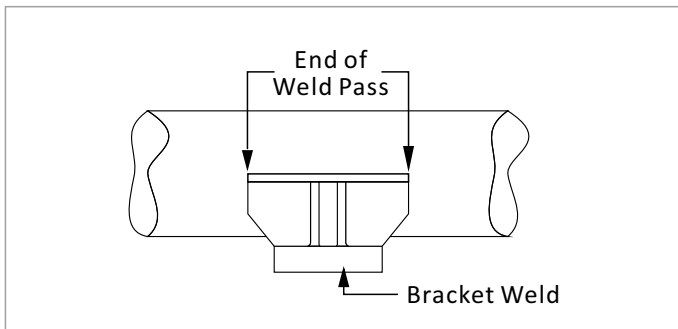

FIGURE 19
- » Axles are more likely to crack at the end of the bracket attachment welds. It is critical to avoid welding imperfections such as craters, undercuts and poor fusion at these locations. Some methods of avoiding these imperfections include using correct welding parameters, starting and stopping the arc a short distance away from the ends of the weld pass and maintaining correct arc position and length. (Figure 19)